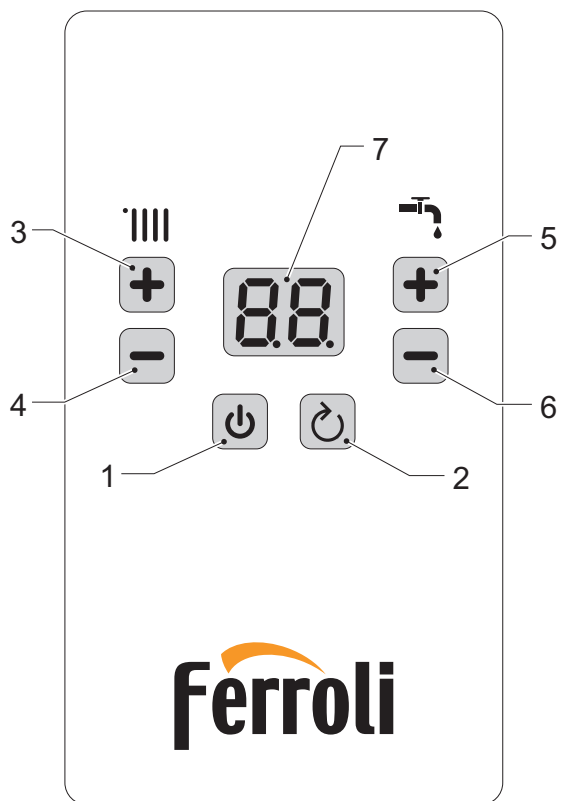

fig. 1
Use the buttons (ref. 3 and 4 of fig. 1 on page 6) to adjust the heating temperature.
Use the buttons (ref. 5 and 6 of fig. 1 on page 6) to adjust the storage tank water temperature. The setting range is 30 - 60 °C and the default value is 60 °C.